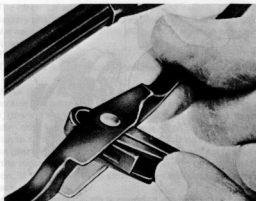

Fig. 10.15. Removing a windscreen wiper blade (Sec. 19)
- wiper arm and slide the blade off the pivot pin (see Fig. 10.15).